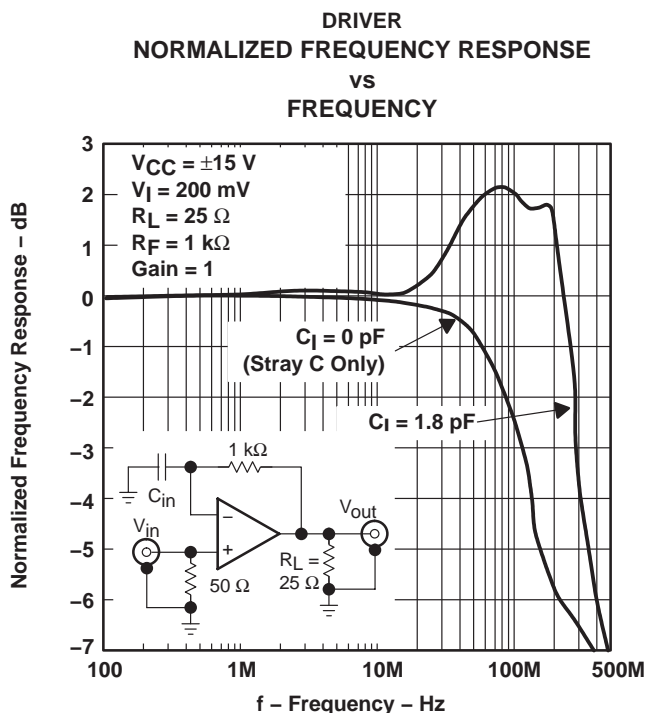

Figure 56. Driver Normalized Frequency Response vs. Frequency
- Input stray capacitance – To minimize potential problems with amplifier oscillation, the capacitance at the inverting input of the amplifiers must be kept to a minimum. To do this, PCB trace runs to the inverting input must be as short as possible, the ground plane must be removed under any etch runs connected to the inverting input, and external components should be placed as close as possible to the inverting input. This is especially true in the noninverting configuration. An example of this can be seen in Figure 56, which shows what happens when 1.8 pF is added to the inverting input terminal in the noninverting configuration. The bandwidth increases dramatically at the expense of peaking. This is because some of the error current is flowing through the stray capacitor instead of the inverting node of the amplifier. Although, in the inverting mode, stray capacitance at the inverting input has little effect. This is because the inverting node is at a *virtual ground* and the voltage does not fluctuate nearly as much as in the noninverting configuration.